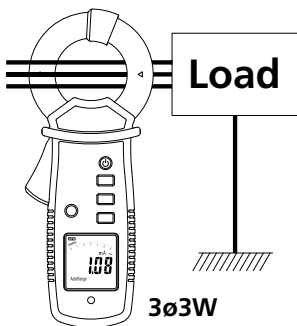

**Figure 1: Direct Method
For properly grounded systems, in case of the fault, leakage current should be conducted via earth conductor (PE) (Figure 1). We can measure such current directly in a earth conductor using a leakage clamp meter.